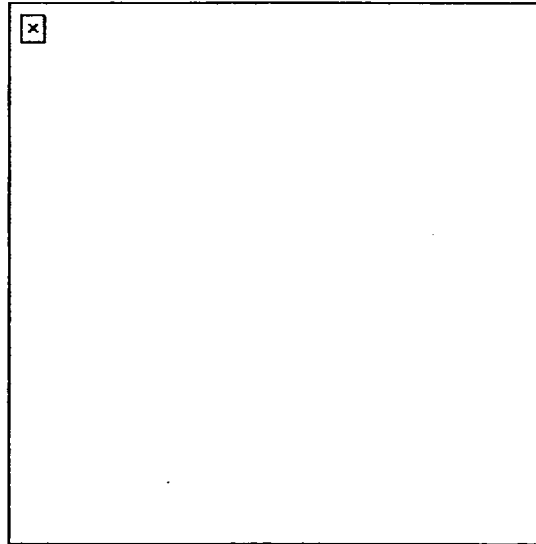

Figure 6. Attachment of clamps to M4 pedestal.
- c. Attach the middle clamp to the M4 pedestal (A, Figure 6).
- (1) Assemble the middle clamp around the pedestal, about 2 inches below the welded pin (B, Figure 6). Tighten the clamp by turning the train lock clockwise. Using 9/16 wrench, equally tighten the hex head screw on other side of clamp.
- (2) Attach two support clamps. Using two 9/16 wrenches, attach one support clamp above and below the already installed middle clamp. Tighten each screw two turns until snug.